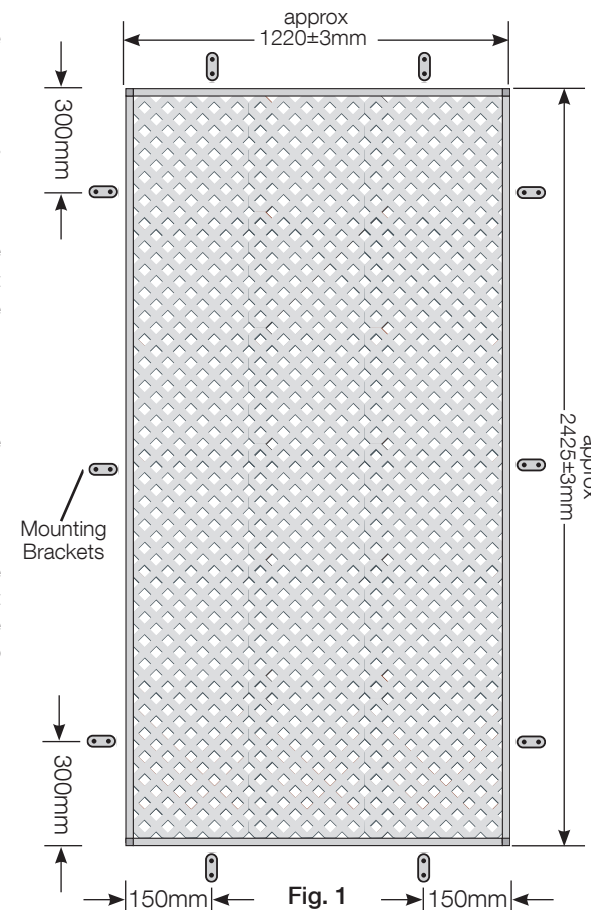

Fig. 1
The maximum opening that one full framed panel can fill is approximately 1220 x 2425mm (not including mounting brackets and screws or rivets) as detailed in Fig. 1.
- We recommend using three brackets on each long side and two brackets on the short side (Fig. 1).